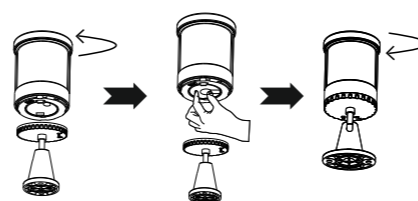

Fig.6 Replacing the battery
- Turn the PIR counter-clockwise to open the battery compartment (Fig.6).